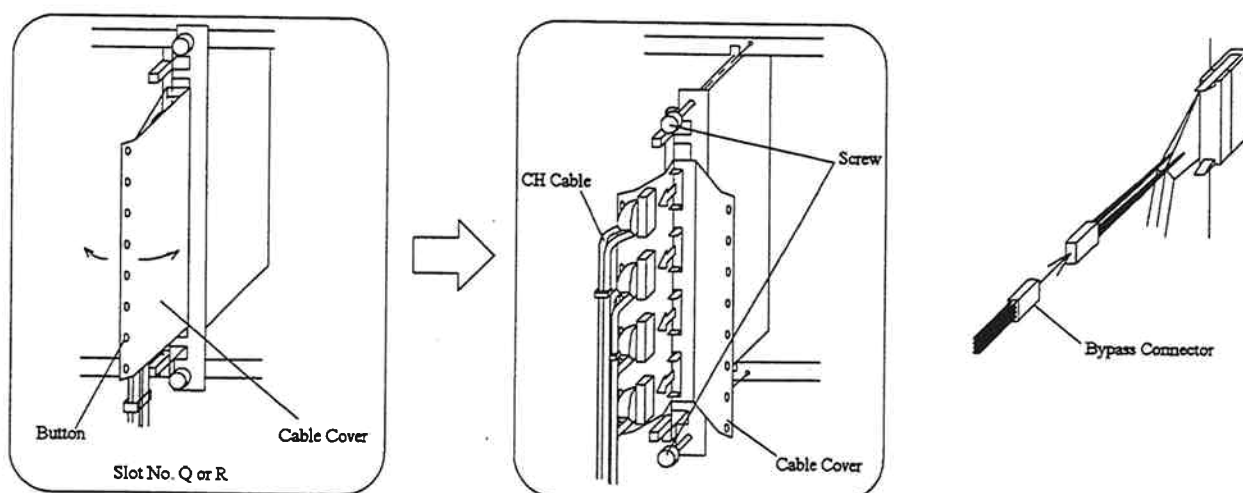

Fig. 3.7.5.2.2-5 Removal of PCB
- Insert the PCBs to the correct locations in the Logic Box. Refer to Table 3.7.5.2.2-4 and Fig. 3.7.5.2.2-6.